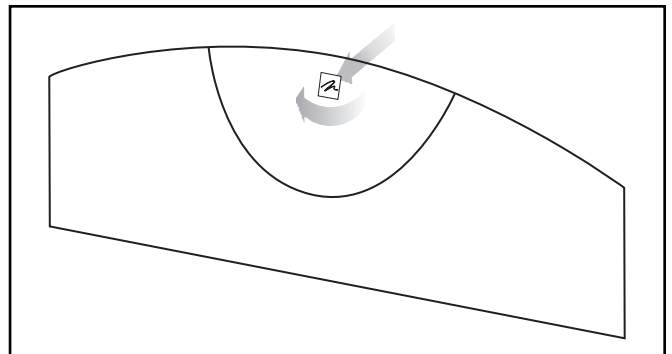

Figure 25. Rotate the Fresco's logo medallion so it is correctly orientated.
- 13 Rotate the Fresco's logo medallion, by removing the grill cloth cover, gently pressing the medallion from behind and turning it to the correct orientation (see figure 25).